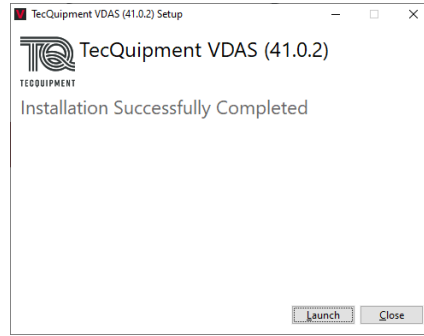

Figure 5 VDAS® e-lab Successful Installation Screen
3. Wait until the installation is successfully completed (Figure 5).